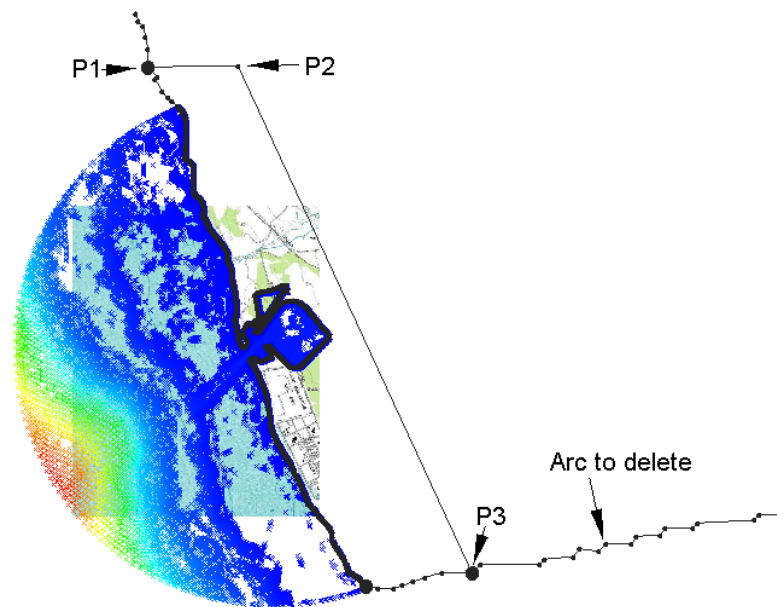

Figure 20-3. Arc bisecting area around simulation from island.
3. Click on the coastline just north of the data (P1 in Figure 20-3), then click inland (P2) and then on the coastline east of the simulation area (P3).
4. Switch to the Select Arc Tool  and select the coastline away from area of interest and hit the Delete key to eliminate this arc (Arc to delete in Figure 20-3).